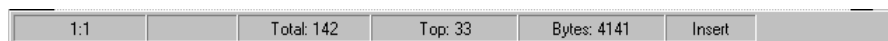

Figure 4-2. WinIDE Status Bar
- **Status Bar:** The status bar (Figure 4-2) appears along the bottom edge of the main window and contains a number of fields (depending on the project) that show